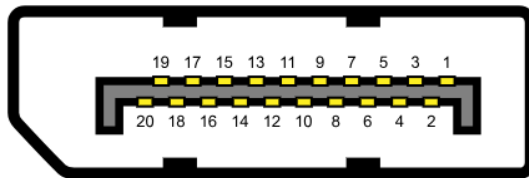

Figure 3-28: DisplayPort Connector Pinout Locations
- CN Pinouts:** See **Table 3-25** and **Figure 3-28**